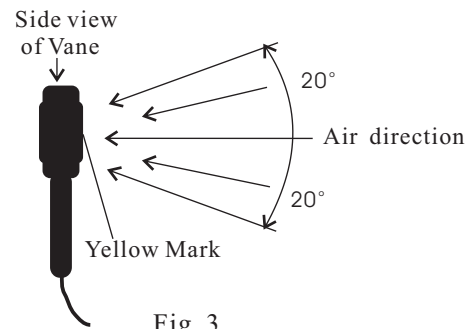

Fig. 3
- Place the sensor in the air current with the yellow dot side of the vane facing the air flow (see Fig.3)
- Place the vane in the air flow (Fig.3). Wait approximately 2 seconds for a stabilized Air Flow reading. The equation below is used to calculate Air Flow: